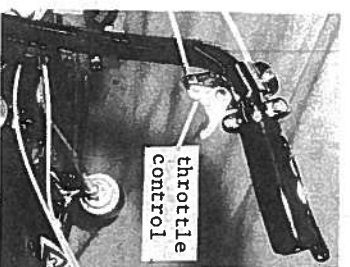

FIG. 12
- a. May be positioned for use by the index finger (underneath) or by the thumb (inside - illustrated figure 12, 13). Left or right hand installation operators choice.
- d. Control engine power with throttle trigger (figure 12, 13). Throttle trigger completely pulled back (squeezed) is full power, other positions are less power. Release throttle trigger to slow or stop bike.
- 14. STOPPING ENGINE - (If riding, release throttle trigger, stop bike, move switch to OFF (UP) position.)